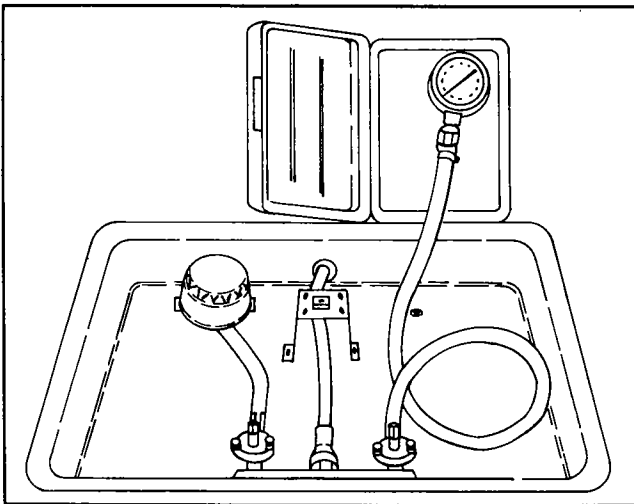

Figure A-1. Manometer Hook-Up
4. Attach manometer tube tightly on the burner feeder tube (figure A-1) and open that burner valve to the high position.